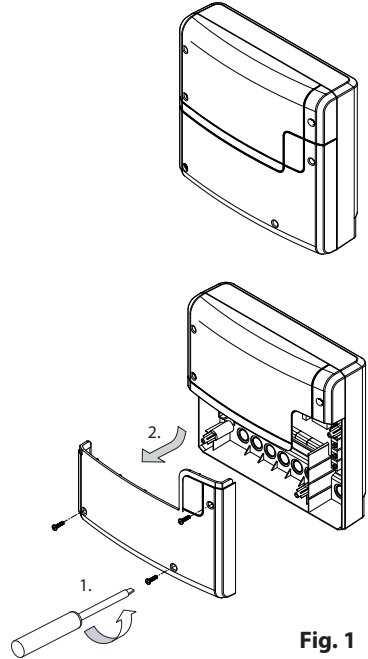

Fig. 1
2. Remove the housing cover (Fig. 1)